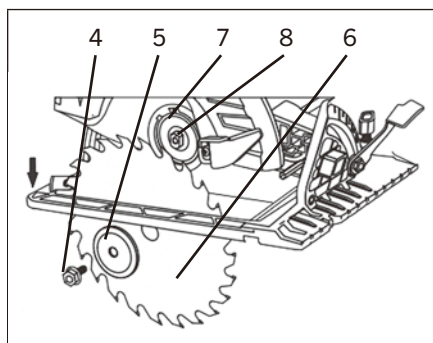

FIG. 3
NOTE: Do NOT remove the inner blade flange (7) from the arbor (8). If it should fall off, make sure the THICKER boss on the washer is facing the motor (Fig. 3).